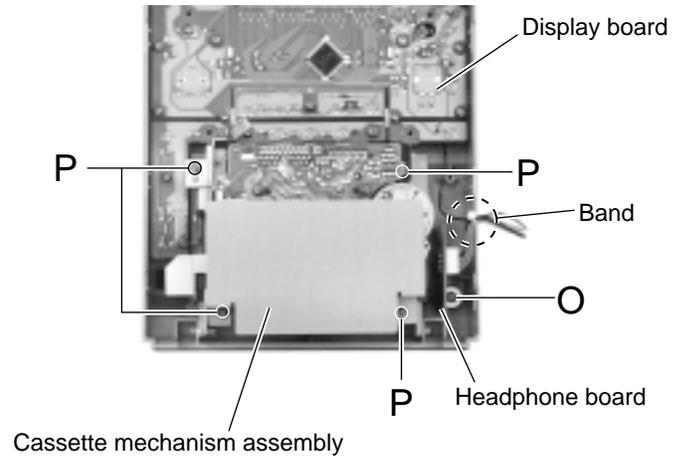

Fig.23
(See Fig.23)
■ Removing the cassette mechanism assembly (See Fig.23 and 24)